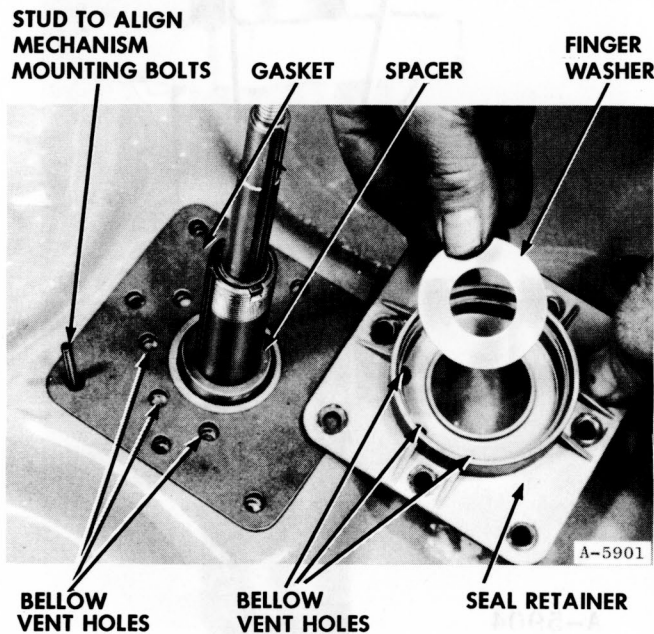

Figure 127
6. CAUTION: Use new gasket under the tub seal retainer Fig. 127.
8. Install tub support spacer. Fig. 127.
9. Install flinger washer, Fig. 127.